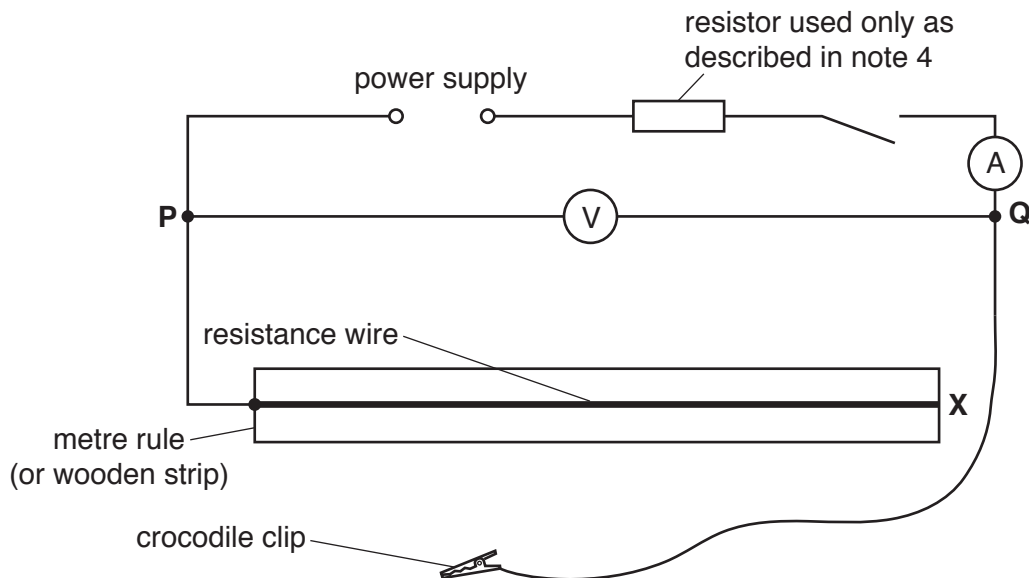

Fig. 1.1
- (vi) Sufficient connecting leads to set up the circuit shown in Fig. 1.1.
2. The circuit is to be set up for candidates as shown in Fig. 1.1, with the crocodile clip disconnected from the resistance wire. The free end of the resistance wire must be labelled **X**. Label **P** and **Q** as shown in Fig. 1.1.
4. Where candidates are provided with a variable power supply, the voltage should be set by the Supervisor and fixed, e.g. taped. If the power supply is a power pack or lead acid cells, rather than dry cells, a $1\ \Omega$, 3 W resistor must be connected in series with the power supply as shown in Fig. 1.1. Appropriate insulating tape should be used to cover this resistor and hide it from view.
Ensure that the circuit is connected as shown in Fig. 1.1.